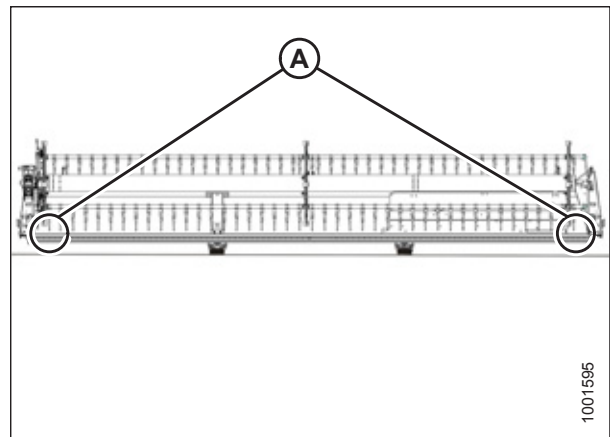

Figure 5.27: Single Reel Measurement Locations (Two Places)
5. Measure the clearance (X) at all possible points of contact (between points [B] and [C] at the ends of each reel [A]) as shown in Figures 5.27, page 62 and 5.28, page 62.